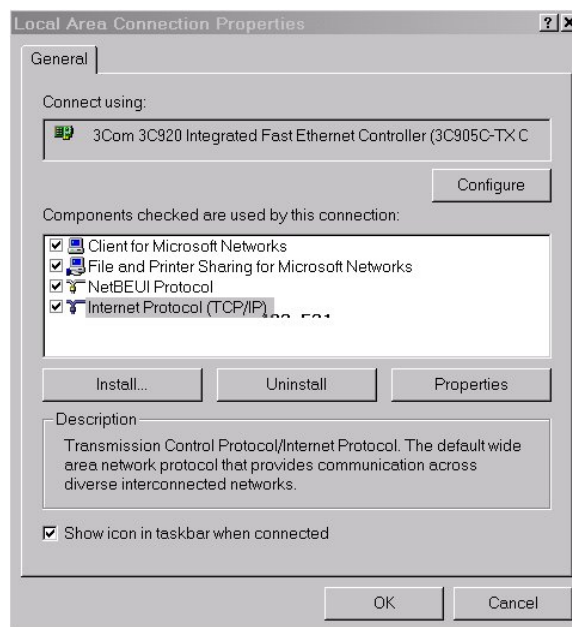

Fig. 5-1 – Selecting the Ethernet card (TCP/IP)
- Select *Internet Protocol (TCP/IP)* from the *list of components* (in the general menu) with the left mouse button (see Fig. 5-1).